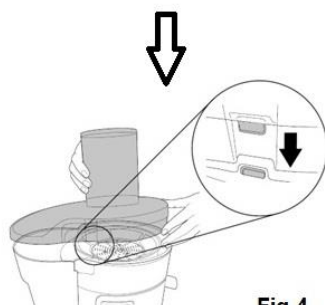

Fig.4
6. Fit the cover onto the top of the bowl; ensure the tabs on the cover lid on the tab on the bowl and then insert the pusher (Figs. 4 & 5).